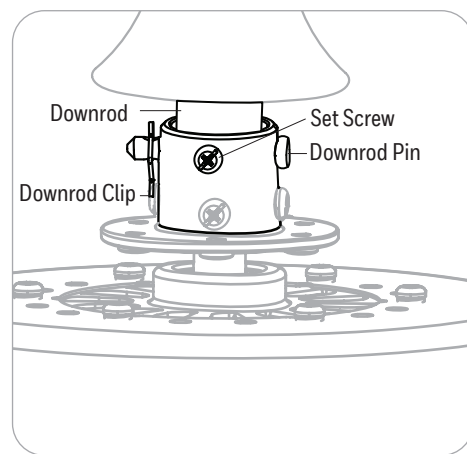

Figure 2.6
6. Slide the downrod into the yoke of the motor assembly. Align holes and reinstall the downrod pin and downrod clip and secure with the two set screws (Figure 2.6).